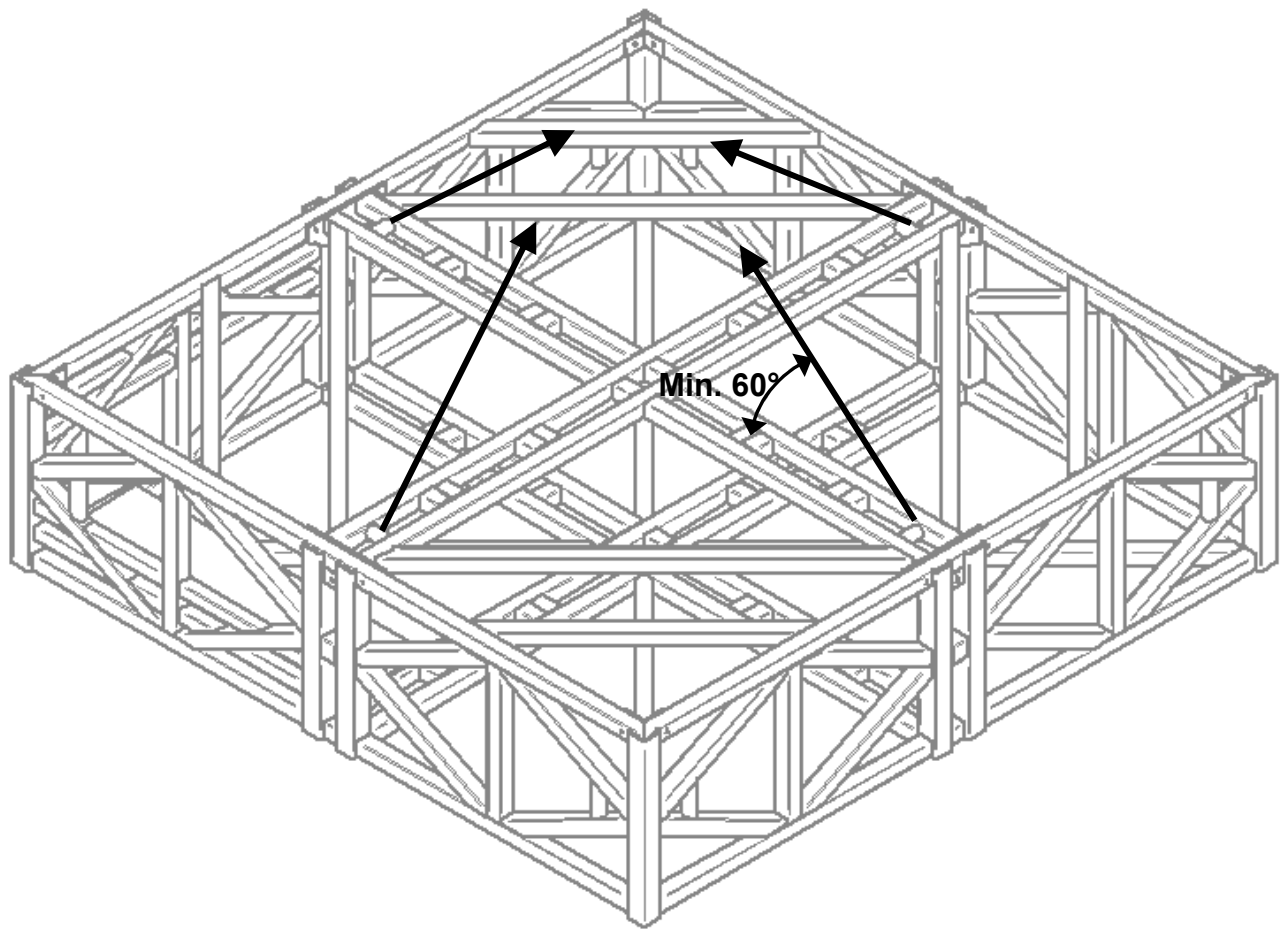

Figure 5
- Lifting can be on the four hoisting points on the cover with minimum 60° rope-angle (Refer to Fig 5)